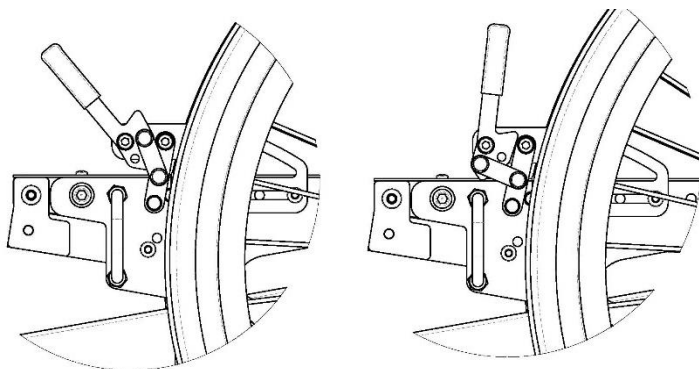

Figure 12.23: Pull-to-Lock (Left) and Push-to-Lock (Right) Wheel Locks (standard)
1. To engage the push to lock wheel lock (see Figure 12.23), push the lever forward, away from the wheel, until it locks into place.
2. To engage the pull to lock wheel lock (see Figure 12.23), pull the lever towards the wheel until it locks into place.